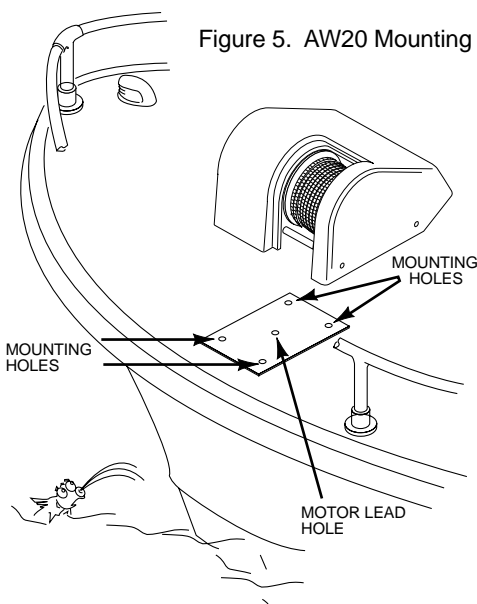

Figure 5. AW20 Mounting
The anchor winch can be mounted on the fore (front) or the aft (rear) of the boat. It is important that the supplied davit line up with the centerline of the rope spool for proper operation. To mount the anchor winch, refer to Figure 5 and follow the procedures outlined below.
9. Spot and drill the holes as shown on the template. There are four 5/16" mounting holes and one 5/16" hole for the motor leads. See Figure 5.
#### Refer to Figure 5